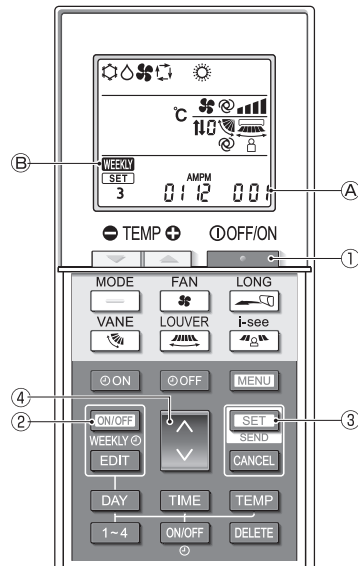

Fig. 4-1
1. Switching to the function setting mode (Fig. 4-1)
- Press the button ① to stop the air conditioner.
- If the weekly timer is enabled, press the button ② to disable the timer. (**WEEKLY** ② disappears.)
- Press the button ③ for 5 seconds.
- The remote controller enters the function setting mode. (The group model setting number ④ blinks.)
2. Entering the group model setting number (Fig. 4-1)